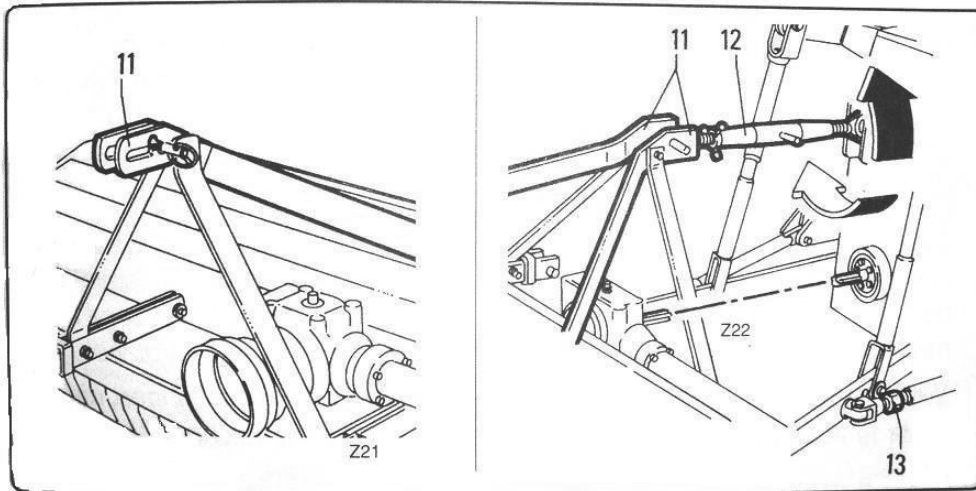

fig. 4.2.2
- Fix the upper rod "12" fig. 4.2.2 of the three - point hitch "11" and adjust it until the pto of the implement is parallel to the ground.